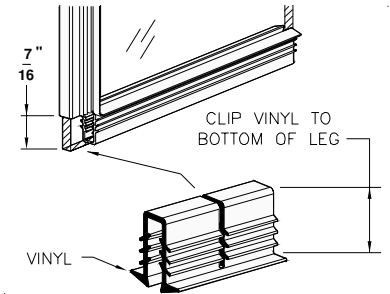

figure 3
4. Reposition Wall Jamb (B) as before and secure Jamb to walls using the six(6) 1-1/2" Installation Screws (H) provided (3 per jamb).
5. Decide from which side your Door Assembly (D) is to hinge (left or right, your choice). Install Glazing Vinyl (d7) onto hinge side of glass as shown in the exploded view. Begin glazing at top of glass edge and work down. Clip the vinyl 7/16" from bottom edge of glass (see figure 3) and continue glazing bottom edge of glass as shown.